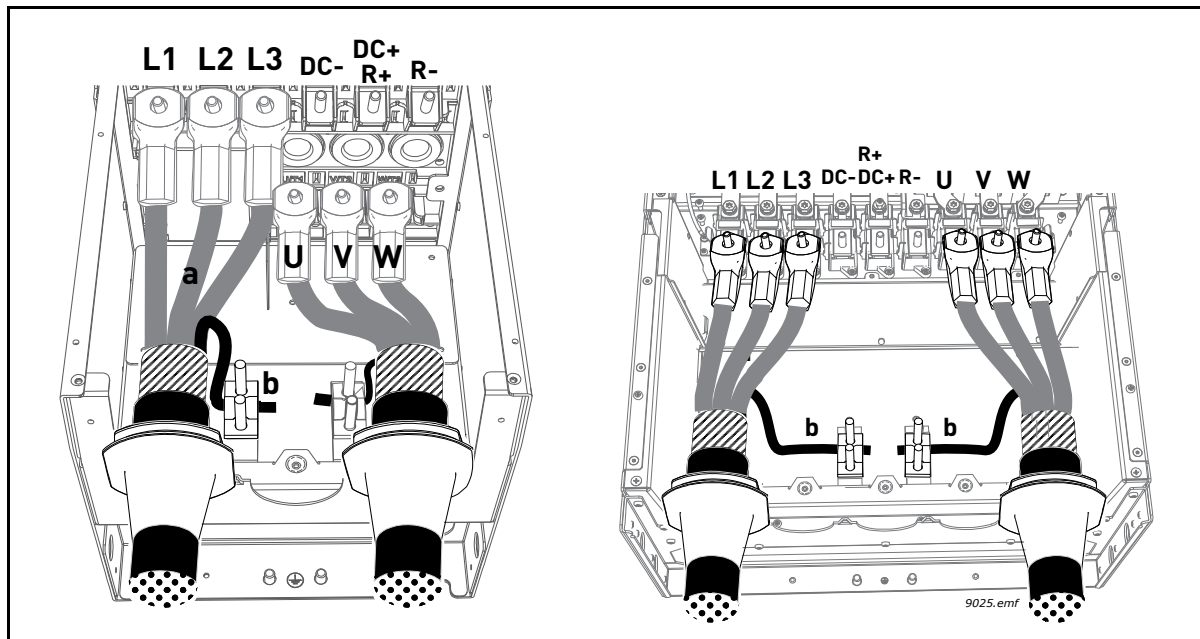

Figure 45. Connecting power cables, left: MR8, right: MR9
- Form the rest of the cable shield of all cables into “pigtails” and make a grounding connection as shown in Figure 45 (b) using the clamp from the *Accessories bag*.